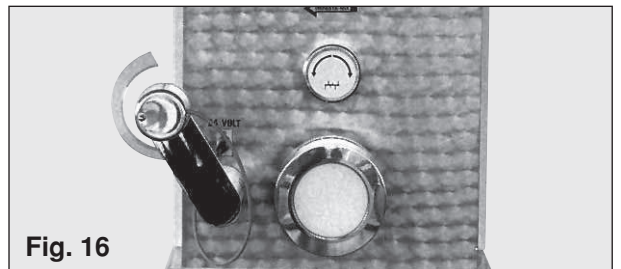

Fig. 16
- rotate the cutting group to the stop position (Fig. 16);